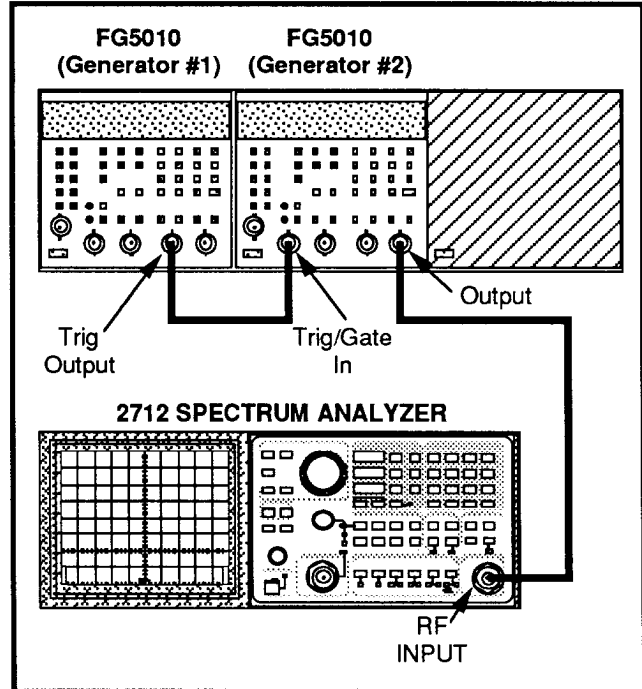

Figure 3-10. Test setup for checking the Quasi-Peak detector.
- b. Connect the test equipment as shown in Figure 3-10 (generator #1 Trig Output to generator #2 Trigger/Gate In, and generator #2 Output to spectrum analyzer RF INPUT).